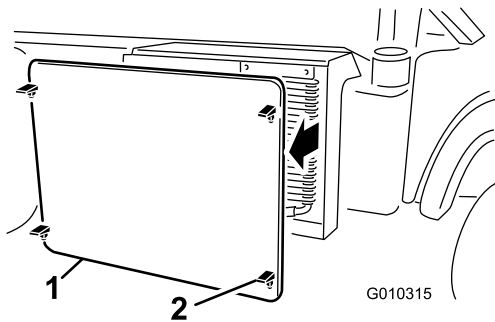

Figure 68
5. Unlatch and remove the radiator screen from the front of the radiator (**Figure 68**).